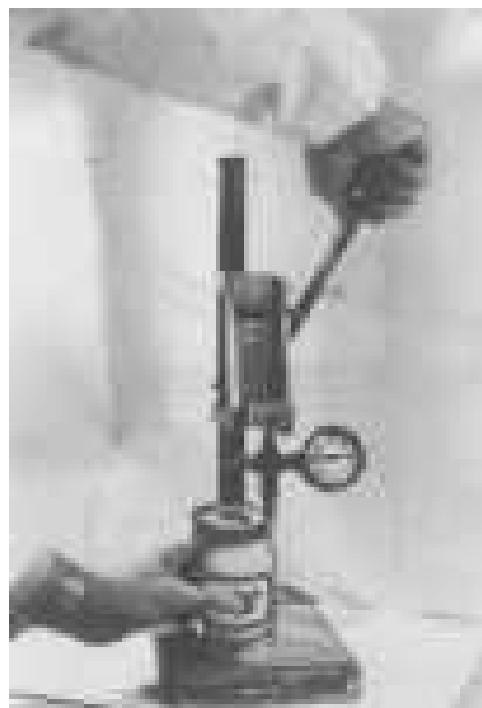

Figure 26. Vacuum gauge for seal integrity examination.
1. **Vacuum.** Use standard open-closed type of vacuum gauge or USG No. 12118 gauge with both vacuum and pressure scales (Fig. 26). Wet rubber gasket on piercing device with water. Shake off excess water. Puncture closure, using piercing needle attached to vacuum gauge. Read and record vacuum in inches (0-30 inches), or pressure (0-15 psi).